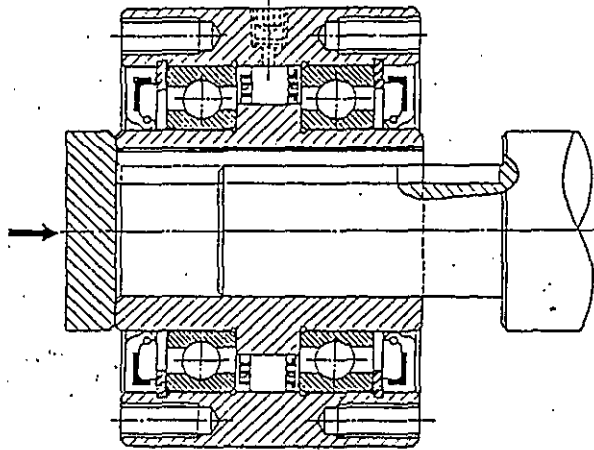

Fig. 20 Mounting of Package onto Shaft
- (2) When fitting on one-way clutch onto the shaft, apply force only onto the inner ring as shown in Fig. 20. The bearing can be damaged when force is applied onto the outer ring.
- (3) Seal in proper amount of correct lubricant prior to using the clutch.
- (4) Tightly wrap seal tape onto the plug after sealing so that leaks will not take place.
- (5) Initially turn with hands and operate after confirming that it works correctly.